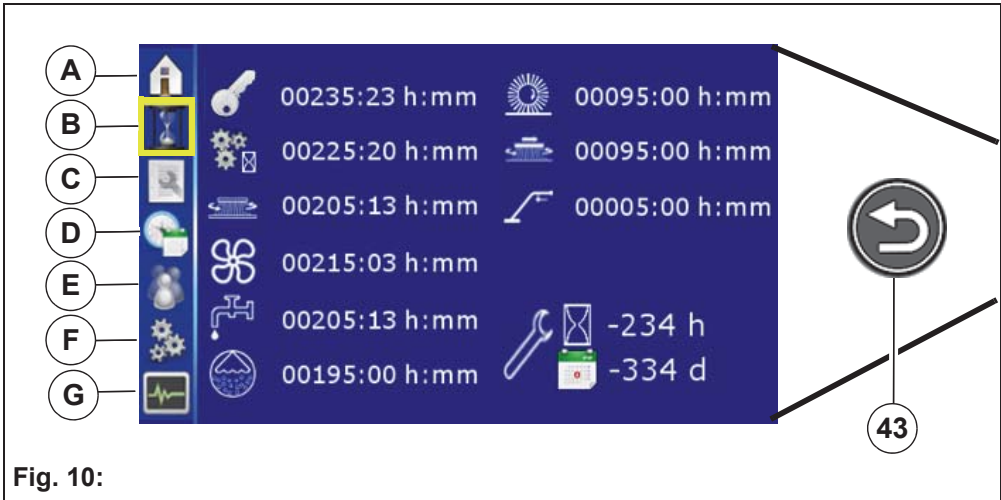

Fig. 10:
- the soft key *Home* **Fig. 10-A** or
Operating hours meter menu Fig. 10-B
Maintenance menu Fig. 10-C
Time/date menu Fig. 10-D
User settings menu Fig. 10-E
Configuration menu Fig. 10-F
Service information menu Fig. 10-F